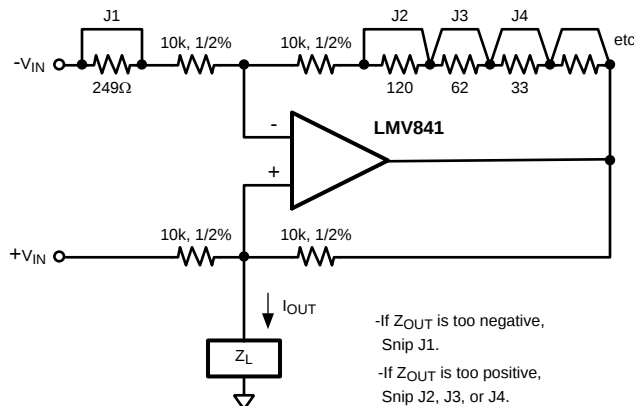

Figure 11. Trimming Z_{OUT} without a Trim-Pot
5. Use the techniques of NSC's Linear Brief LB-46 to make snip-trimmed resistors, to avoid the problems with pots. See Figure 11.